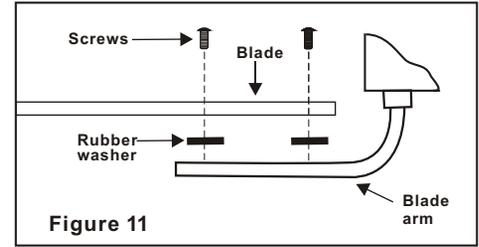

Figure 11
Step 1 Attach blades to blade arms using three screws and rubber washers. (Fig. 11) Start a screw into the blade arm, do not tighten. Repeat for the 2 remaining screws and washers.